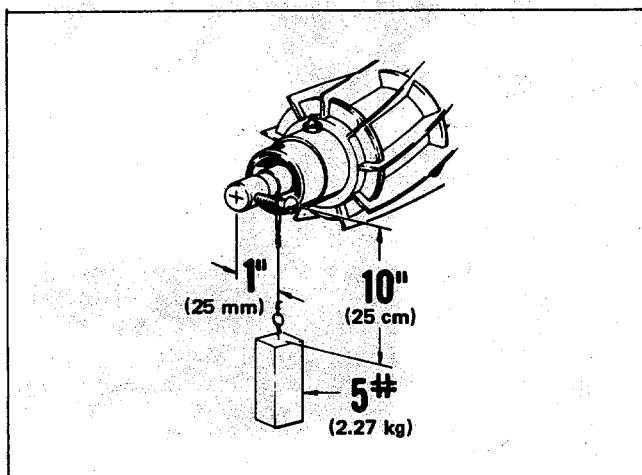

Figure 48
- A. Install a 1/4-20 screw into hole in end of reel shaft (Fig. 48).
- B. Support the reel and hang a 5 lb (2.27 kg) weight 1 in. (25 mm) away from center of reel shaft and 10 in. (25 cm) down (Fig. 48).